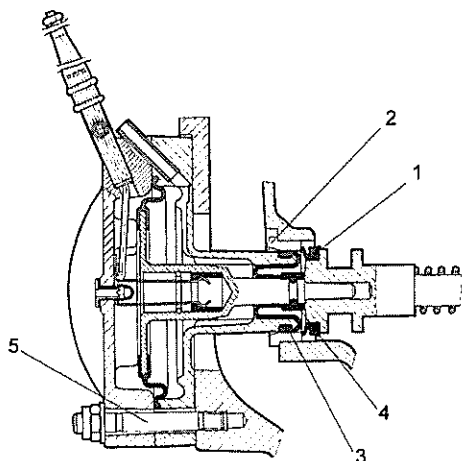
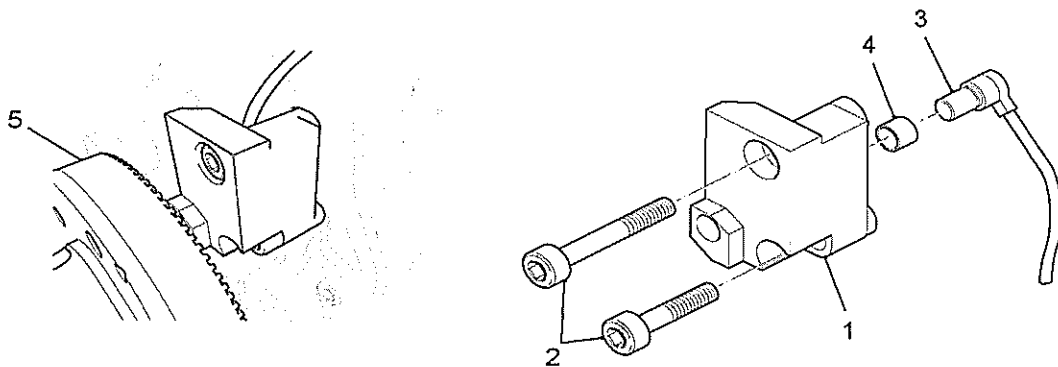

Fig 27 Pneumatic diff lock actuator
Fig 28 ABS sensor mounting
77 Prior to installing pneumatic diff lock actuator, check front-sided seat of V-ring (see Fig 27 (1)) at bush (2) in axle journal. Check sealing diaphragm (3) and clamping sleeve (see Fig 28 (4)) for good condition and correct position respectively.
78 Install pneumatic diff lock actuator with new gasket treated with surface sealant Loctite 574 on both sides, in central position, i.e. use existing play for stud bolts (Fig 27 (5)) so that diaphragm fits evenly inside bush (2) in axle journal.
- 81.4. Remove two bolts (Fig 28 (2)) securing the sensor bracket (1) to the axle casing, note location of bolts for reassembly, remove bracket complete with sensor and bush.